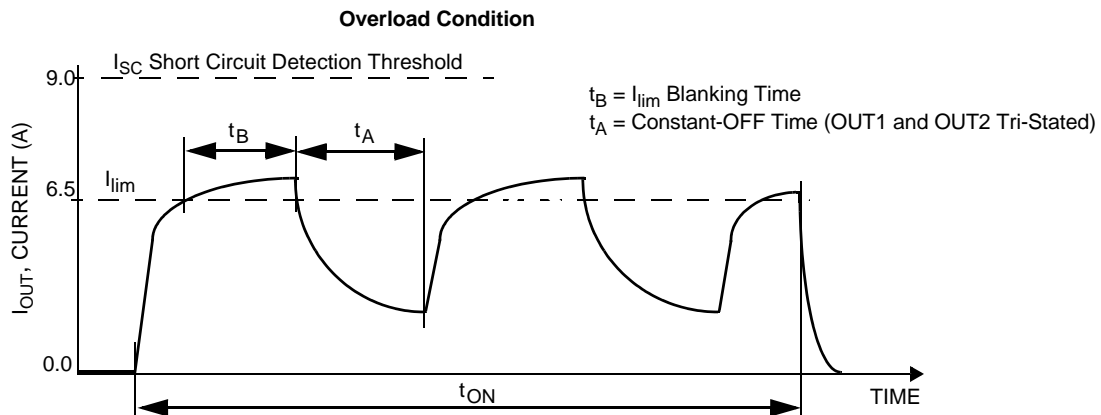
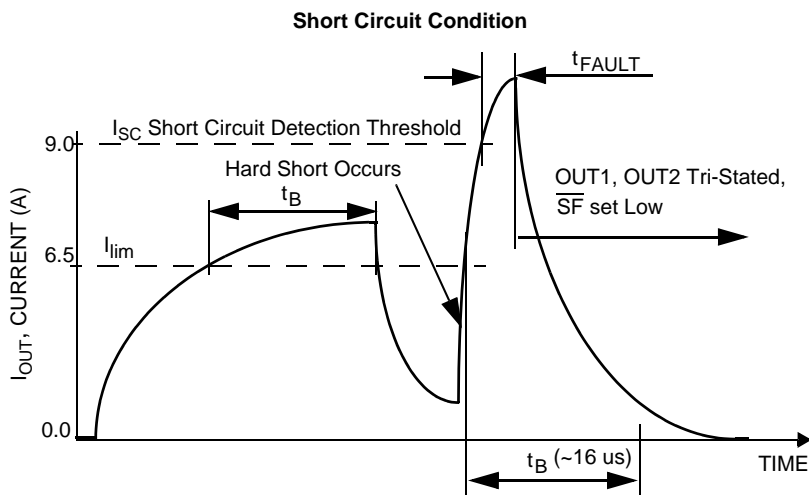
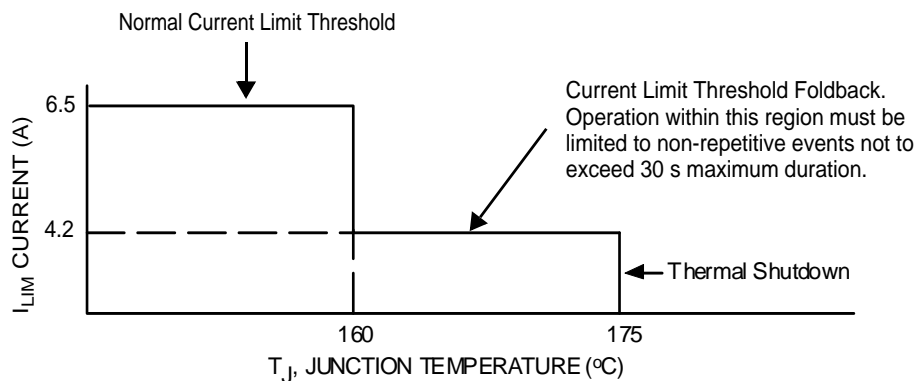

Figure 7. Current Limit Blanking Time and Constant-OFF Time
Figure 8. Short Circuit Detection Turn-OFF Time  $t_{FAULT}$
Figure 9. Output Current Limiting Foldback Region
28. Load currents ramping up to the current regulation threshold become limited at the  $I_{\text{LIM}}$  value (see Figure 7). The short circuit currents possess a di/dt that ramps up to the  $I_{\text{SCH}}$  or  $I_{\text{SCL}}$  threshold during the  $I_{\text{LIM}}$  blanking time, registering as a short circuit event detection and causing the shutdown circuitry to force the output into an immediate tri-state latch-OFF (see Figure 8). Operation in Current Limit mode may cause junction temperatures to rise. Junction temperatures above  $\sim 160^{\circ}\text{C}$  will cause the output current limit threshold to “fold back”, or decrease, until  $\sim 175^{\circ}\text{C}$  is reached, after which the  $T_{\text{LIM}}$  thermal latch-OFF will occur. Permissible operation within this fold back region is limited to non-repetitive transient events of duration not to exceed 30 seconds (see Figure 9).